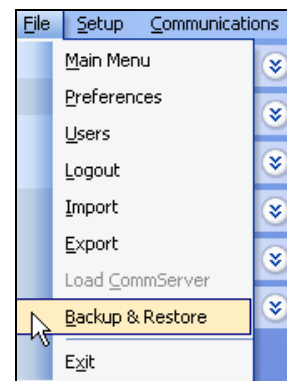

Figure 31.2.1
- In the toolbar at the top of the screen select **File** and then scroll down to the words **Backup & Restore** and click on it (Figure 31.2.1).